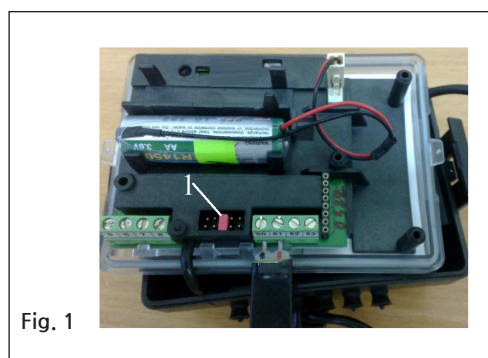

Fig. 1
- 1) Energy pulse out terminals (Fig. 1) connected to the pulse counter (not required when reading the measurement results directly from the display or via a digital interface)
- 3) Verification mode is activated by connecting TEST jumper contacts 1 (Fig. 1).
- 1) Volume pulse output terminals (Fig. 1) connected to the pulse counter (not required when the measurement results are directly reading from the display or via a digital interface)